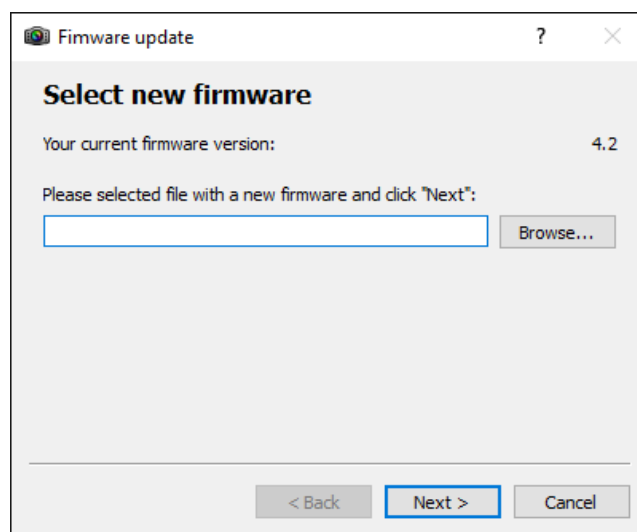

Figure 2 : Firmware Update selection window
2. Click "Browse..." button, as shown in Figure 2, and select the desired firmware update file, in accordance with the device chosen (.bin file extension), and Click "Next >" button.